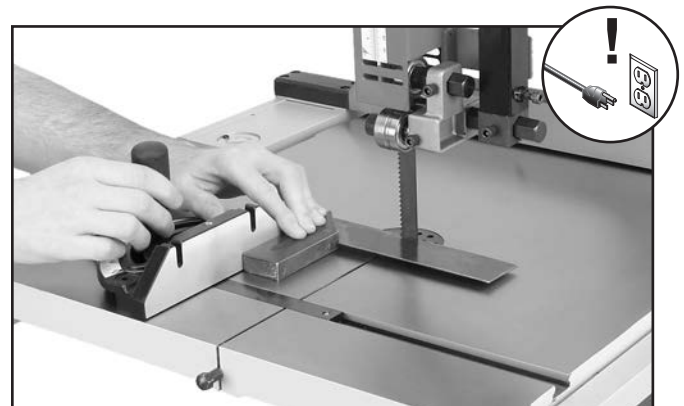

Figure 40. Example of squaring miter gauge to blade.
2. Place one edge of square against face of miter gauge and other edge of square against blade side, as shown in **Figure 40**.